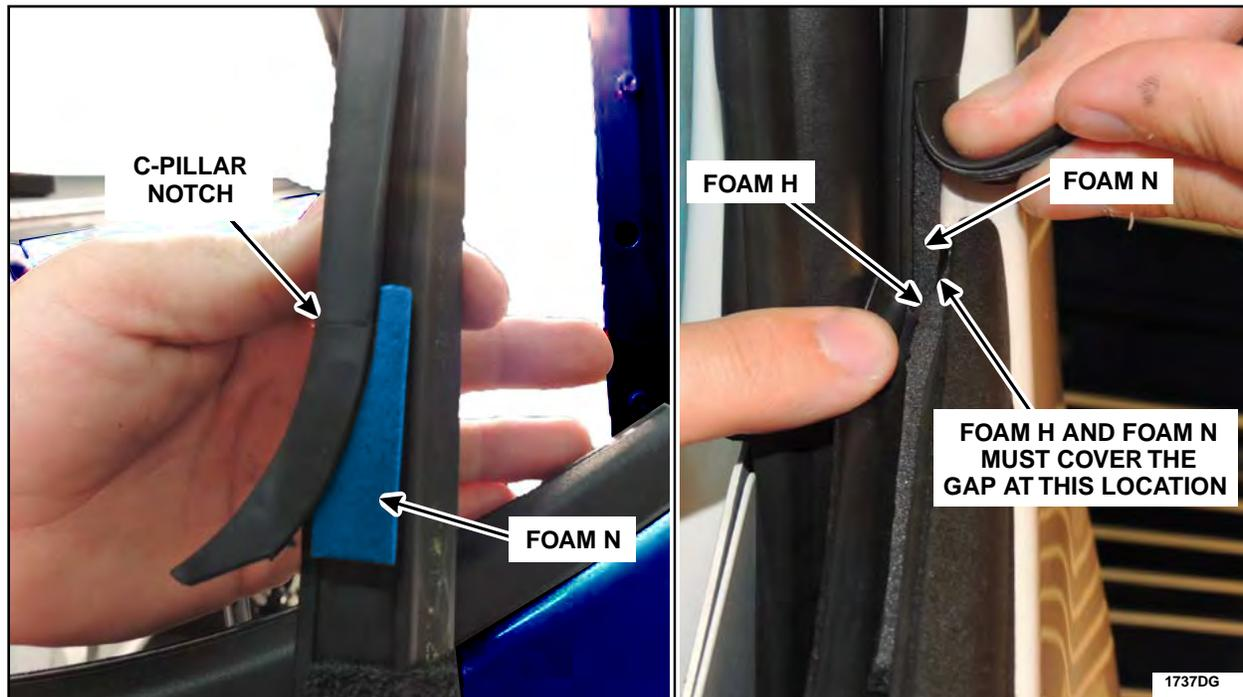

FIGURE 73
15. Install Foam N to the highlighted area of rear door glass top run making sure that the Foam N is under the C-Pillar notch. See Figure 73.